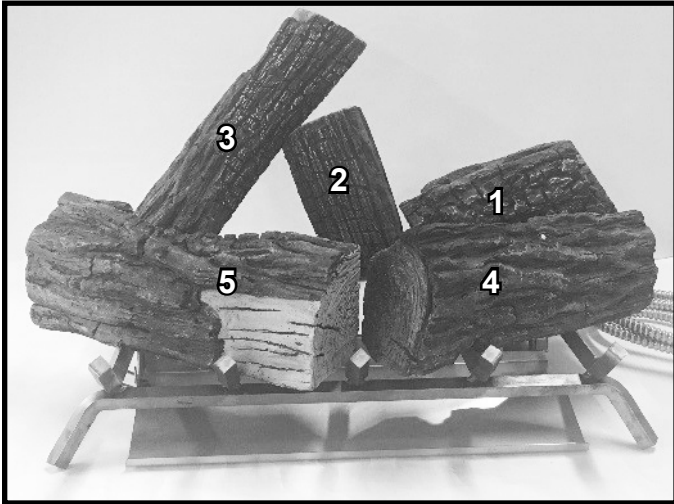

Figure 6. Install Log #5
6. Note the V-shaped grooves on the bottom of Log #5. Set Log #5 on the two front left side grate tines at an angle from front right to rear left as shown in Figure 6. Move the log until the grate tines engage with the V-shaped grooves on the bottom of the log. When properly placed the two front logs will contact in the center and angle back toward the rear of the burner assembly. The left rear of Log #5 will rest on the burner tube bracket.